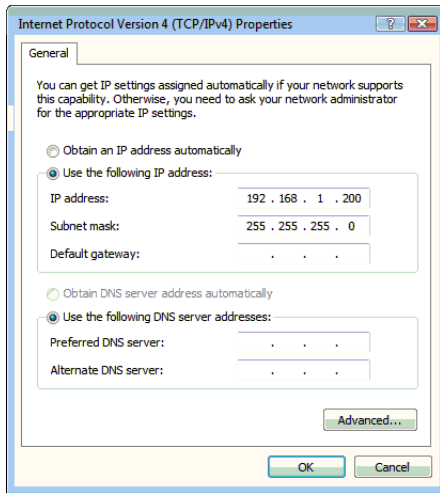

Figure 7-2 Internet Protocol Version 4 (TCP/IPv4) Properties
4. Select Internet Protocol Version 4 (TCP/IPv4) and click the Properties button. The PC displays the Internet Protocol Version 4 (TCP/IPv4) Properties window (Figure 7-2).
4. Select Internet Protocol Version 4 (TCP/IPv4), then click the Properties button. The PC displays the Internet Protocol Version 4 (TCP/IPv4) Properties window (Figure 7-2).